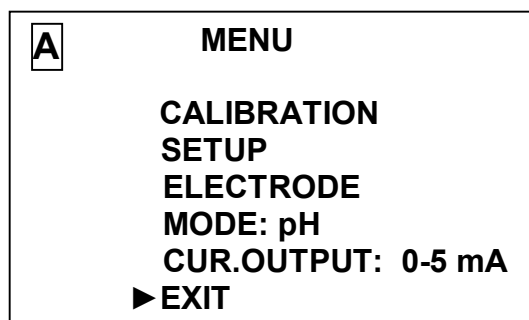

Figure 2.19
18 Use the “↓”/“↑” buttons to set the “▶” marker at **YES** and press the “menu” enter button. The pH-meter will go into the **MENU** mode, having saved the current calibration results. The screen as shown in Fig.2.19 will be displayed.
- 7 Use the “↓”/“↑” buttons to set the “▶” marker at **YES** and press the “menu” button. The pH-meter will go into the **MENU** mode, having saved the current calibration results. The screen as shown in Fig.2.19 will be displayed.